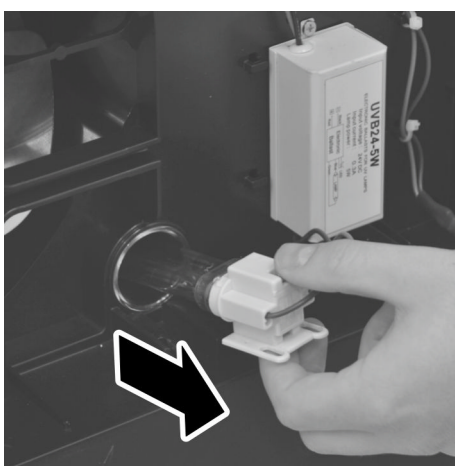

Fig. 34: Removing the UV lamp
4. ➤ Carefully remove the lamp holder from the back (Fig. 34).